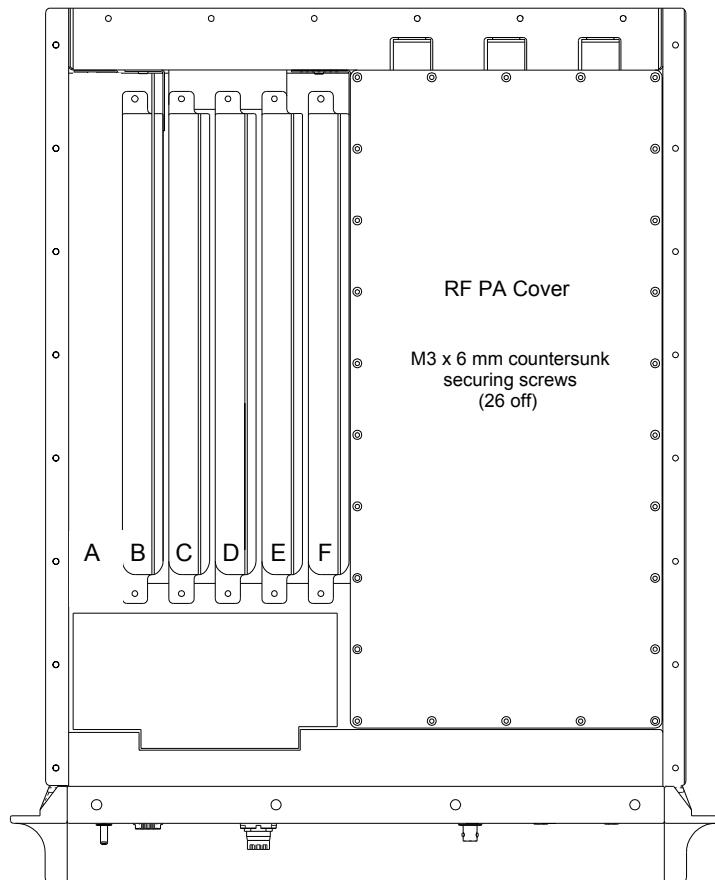

Fig 5-18 RF PA Cover Securing Screws
- (1) Remove the radio's top cover as detailed on page 5-12.
- (2) Remove the Interface module as detailed on page 5-26.
- (3) Identify the RF PA cover, shown in Fig 5-18, and using a Torx T10 screwdriver, remove and retain the 26 securing screws (part number 36T46330060). Remove and retain the RF PA cover.